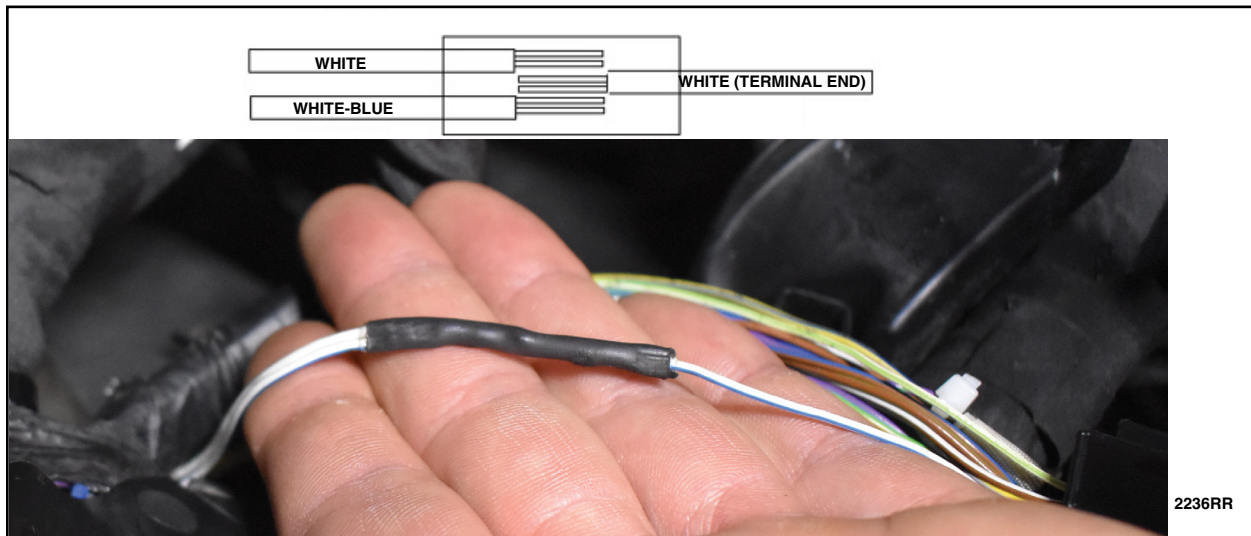

FIGURE 49
59. On the white/blue terminal end fold the exposed wire in half before placing in splice butt connector. This will allow good contact with the butt splice connector. Place wires in splice butt connector. See Figure 49.